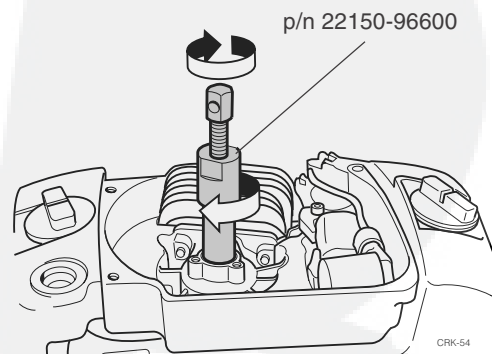

Figure 8.12 Using a Seal Puller
- To remove the seals from an assembled crankcase, use a seal puller such as p/n 22150-96600 (Figure 8.12).